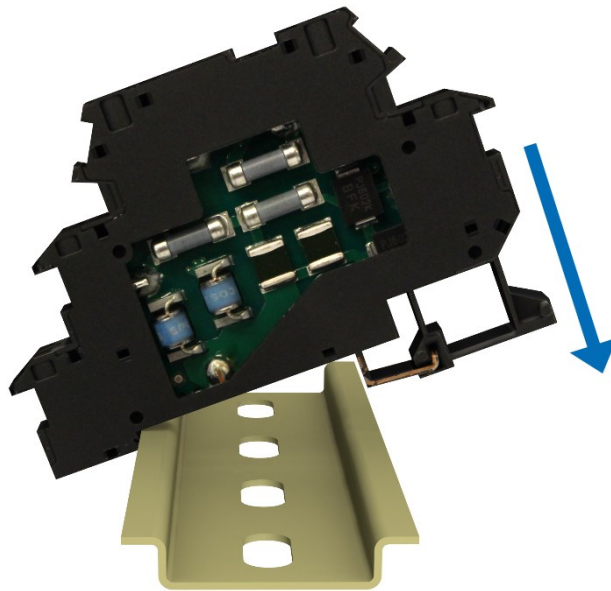
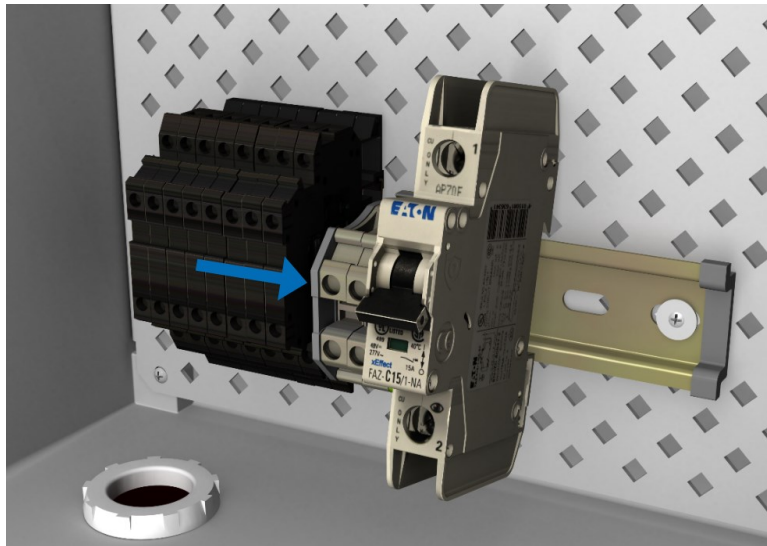

FIGURE B-5. Mounting a DIN-rail component
FIGURE B-6. DIN rail with components
A DIN rail is capable of holding a wide variety of wire connectors, fused terminal blocks, surge protectors, circuit breakers, and power supplies. End cap/separators are used to cover the open side of a terminal strip when it would be exposed. FIGURE B-5 (p. 35) shows the open side of a terminal strip. The end cap/separators also act as spacers to separate different types of terminal blocks. Jumpers are used to electrically connect the terminals. A stopper needs to be on each end of the terminal strip assembly.
5. Starting at one end, mount the DIN-rail components on the rail. One end of each component is designed to catch one side of the rail. The other end of the component then snaps into place when the component is pressed against the rail (FIGURE B-5 (p. 35)). Place DIN-rail stoppers and end cap/separators next to components when the profiles of two adjacent components differ, when a gap between two components is desired, or when the last component is mounted to the DIN rail (FIGURE B-6 (p. 36)).